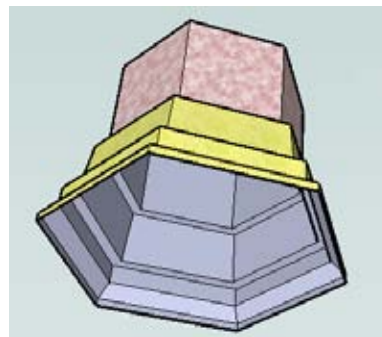

Figure 2-21
6. Look at the underside; as you can see in Figure 2-21, the column and base are a hollow shell. This is like what happened to the fireplace, which had its top face cut. You can trace any edge of the bottom hexagon to add a bottom face.